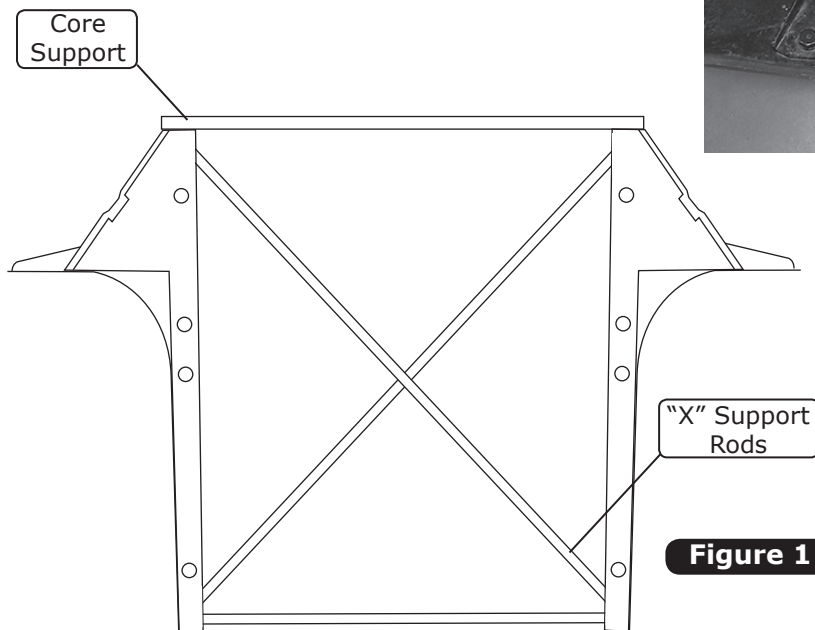

Figure 1
7. Remove the "X" support rods from the core support (if equipped) (discard). **NOTE: If the vehicle is equipped with "X" support rods as illustrated in Figure 1, below, these must be removed from the core support in order to make room for the condenser.**